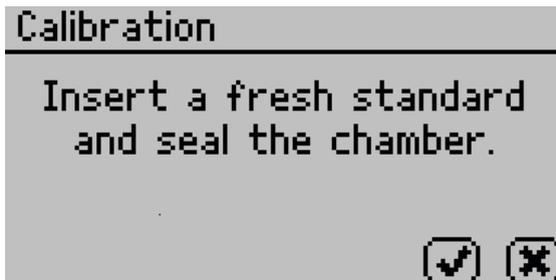

Figure 52 Calibration instruction dialog
5. A prompt will appear to insert a fresh standard and seal the chamber (Figure 52).